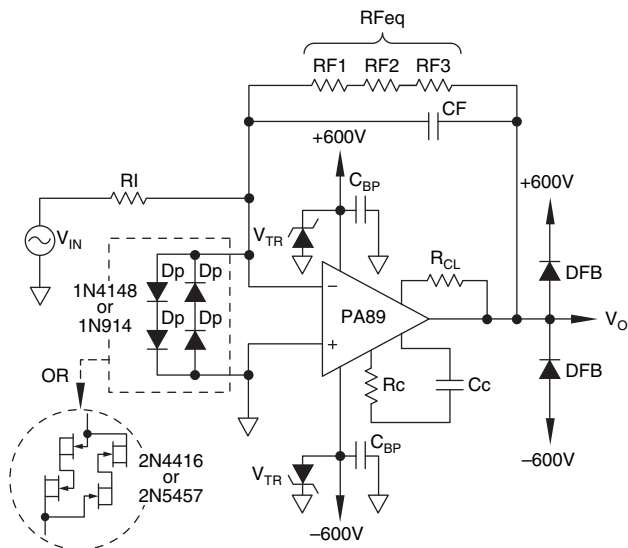

FIGURE 10. HIGH VOLTAGE SUPPORT COMPONENTS
**2) Input Protection (Refer to Figure 10):**
**3) Output Diodes (Refer to Figure 10):**
4) Transient Voltage Suppressors (See Figure 10):
5) Power Supply Bypassing (See Figure 10):
6) Compensation Capacitor and Resistor (See Figure 10):
7) Feedback and Input Components (See Figure 10):
8) Current Limit Resistor (See Figure 10):